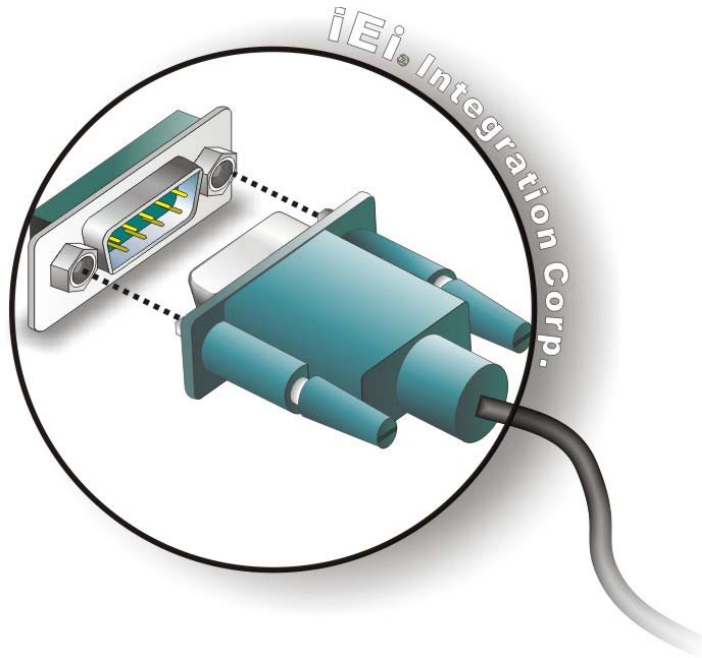

Figure 3-36: RS-232 Serial Device Connector
Step 2: **Insert the serial connector.** Insert the DB-9 connector of a serial device into the DB-9 connector on the bottom panel. See **Figure 3-36**.